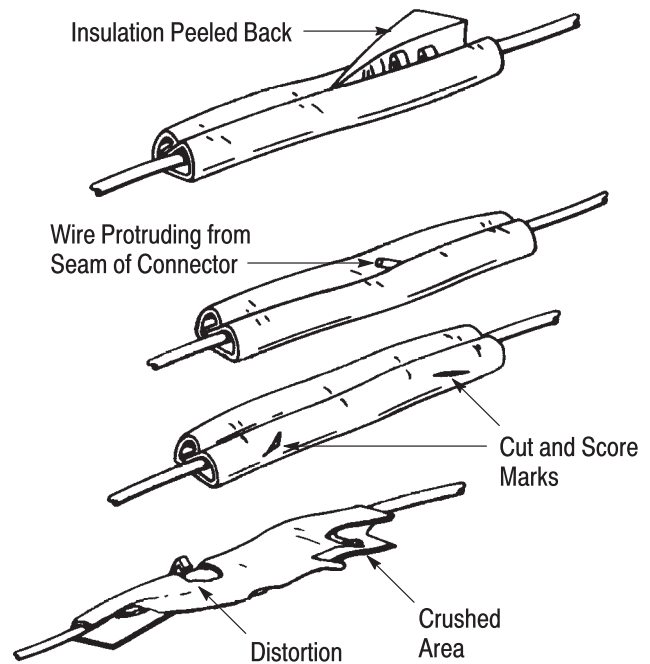

Figure 5
4.2. Visual Inspection (See Figure 5)